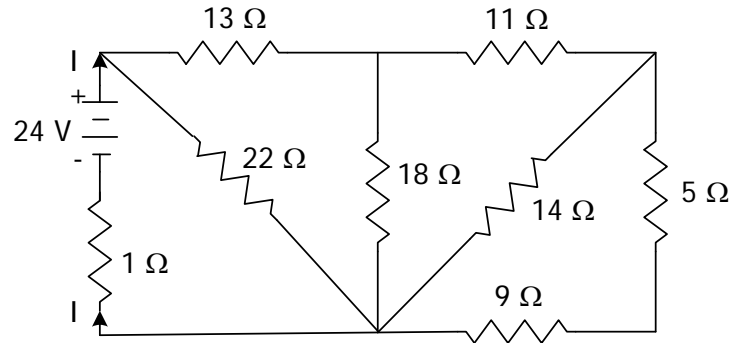

Fig 4(b)
- b) In the circuit given in Fig 4(b) calculate current I by using series and parallel combination.